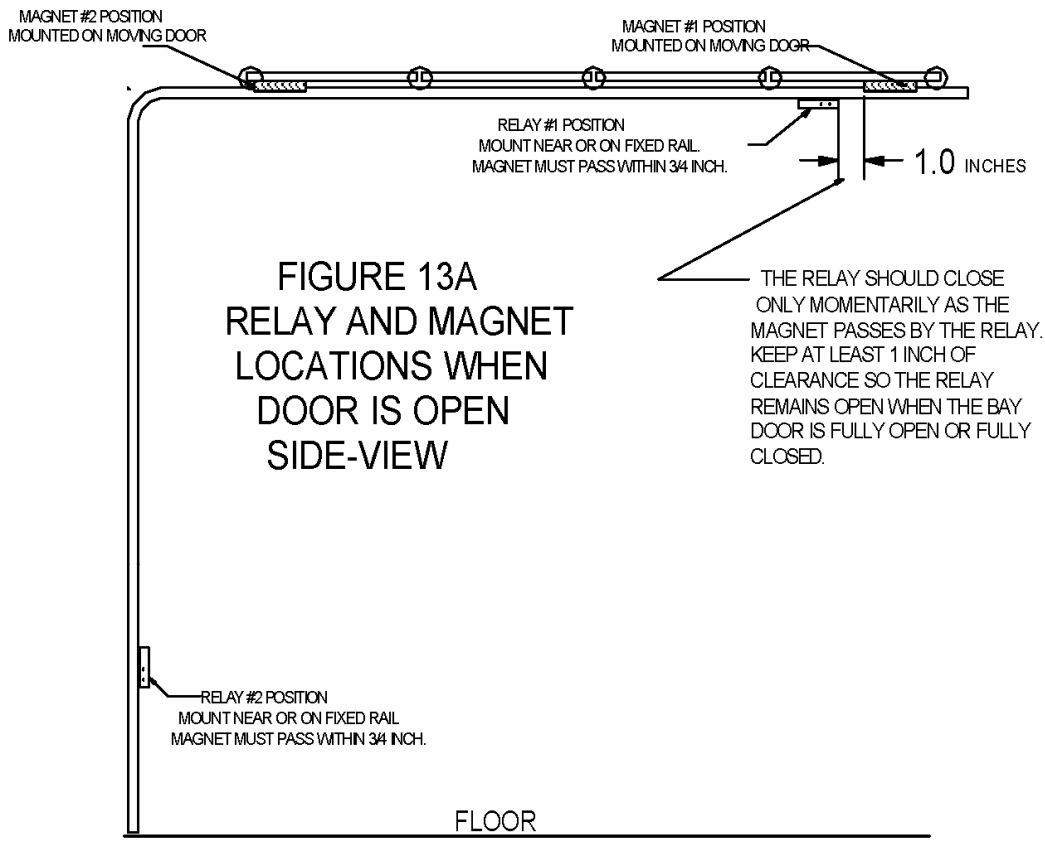

FIGURE 13A
Two (2) “normally open” (NO) magnetic reed relays similar to the ones used for bugler alarms (*Biological Controls provides these as an option*) are installed on the fixed (non-moving) guide system of each bay door. Two (2) permanent magnets are attached to the edge of the bay doors. The magnets “close” the relay contacts as they pass within three quarters of an inch (3/4”) of the relay housing. See figures 13A and 13B for a conventional roll-up door configuration.